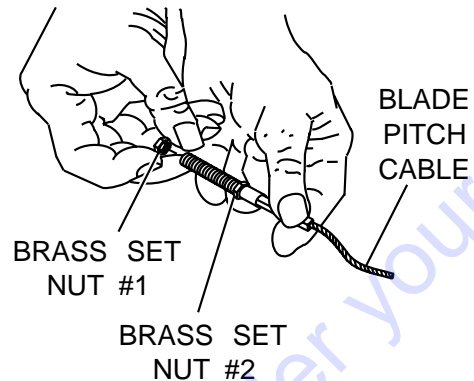

Figure 10. 4-Blade Pitch Cable
3. Remove brass set nut #1 from the blade pitch cable end. See Figure 10.
4. Thread the brass set nut #2 towards the cable as far as possible. See Figure 10.